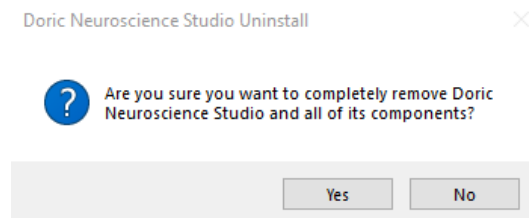

Figure 4.1: Doric Neuroscience studio Uninstall previous version
3. If a previous version is already installed, the software proposes to remove all components from your computer before starting the installation of the new version (Fig. 4.1). This step is necessary to avoid any problems during the use of the new version. If it is the case, select **Yes**.